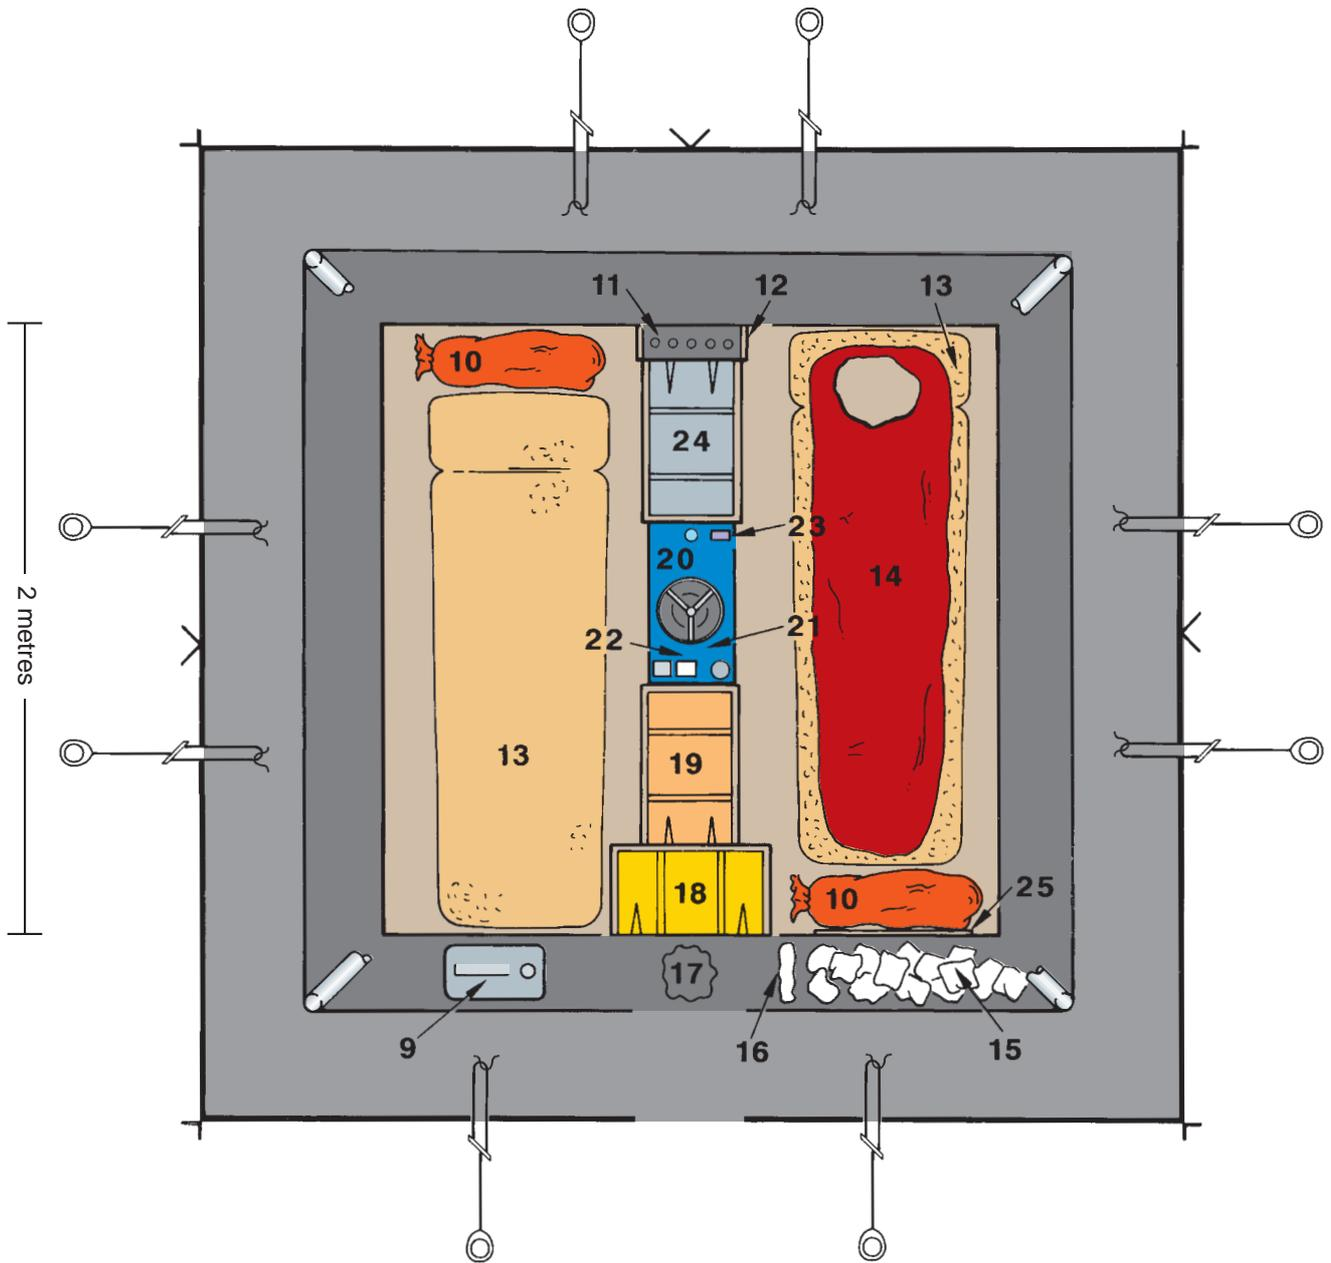

Figure 4.6b Pyramid tent plan
In good weather pitching a pyramid is relatively straightforward. The first thing to consider is where the strongest winds are likely to come from. Figure 4.6b shows the correct orientation of the pyramid tent to the wind. This will cause the wind to scour away from the tent door. It will also result in better ventilation through the ventilation tube (dongler).
- The pots box and tent box are placed in line from the back of the tent to the entrance. A cooking board separates the two boxes. The inside food box is placed crosswise nearest the door. This locks the boxes in place. See Figure 4.6b and Section 4.8 for further information on the box system.
The inside food box (beige), the tent box (yellow) and the pots box (blue), containing all the cooking equipment, are all set up in the tent as in Figure 4.6b. The inside food box is used as the working food box for items decanted from the man-food boxes (see Section 5.1). The tent box holds domestic provisions such as cutlery and plates, toilet rolls, repair materials and books.